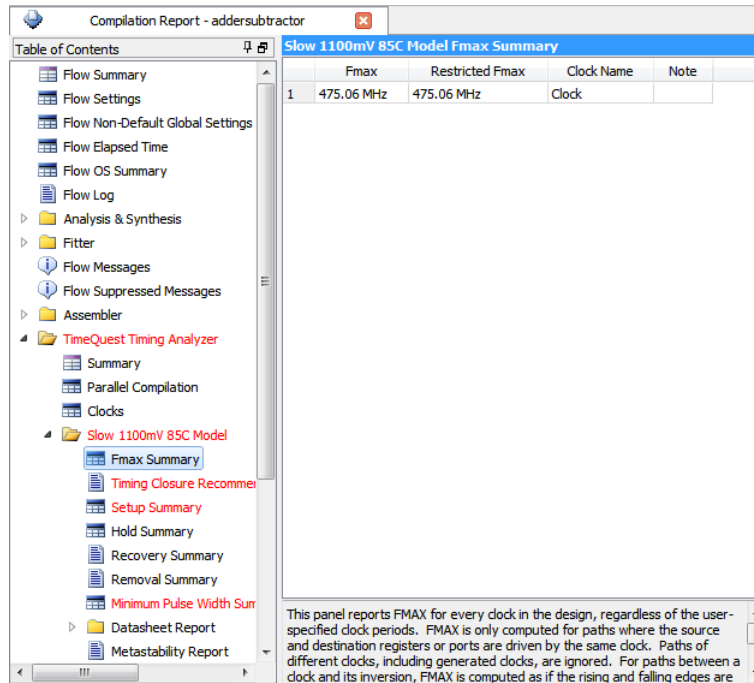

Figure 21: Fmax Summary of TimeQuest Timing Analysis.
- Expand the TimeQuest Timing Analyzer section of the report, as shown in Figure 21. Notice there are multiple models included, which describe the performance of the circuit under different operating conditions. Expand the report for Slow 1100mV 85C Model and click on the item **Fmax Summary** to display the table in Figure 21. The table shows that the maximum frequency for our circuit implemented on the specified chip is 475.06 MHz. You may get a different value of f_{max} , dependent on the specific version of the Quartus® II software installed on your computer.